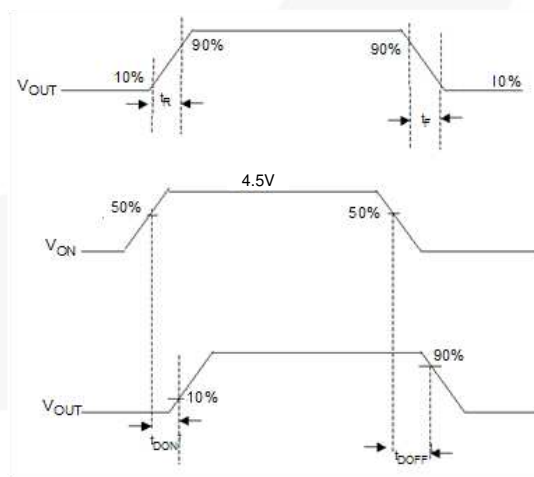

Figure 22. Timing Diagram
8.  $t_{DON}/t_{DOFF}/t_R/t_F$  are defined in Figure 22.